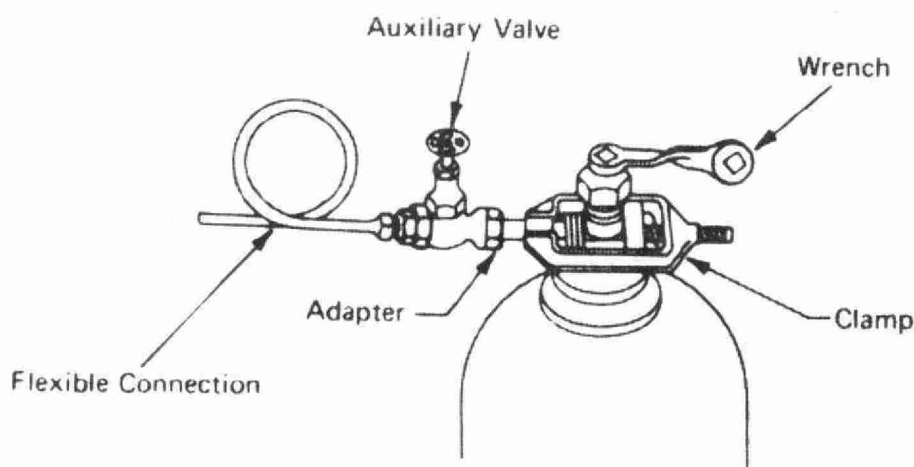

FIGURE 5-5 CYLINDER CONNECTED
- Figure 5-5 shows a cylinder connected to the coil.
14. The piping from the cylinders to the header located on the wall or to the chlorine machine must have an inverted loop of not less than 10" in diameter in its length. The loop acts as a flexible coupling (see Figure 5-5. Topic 5)